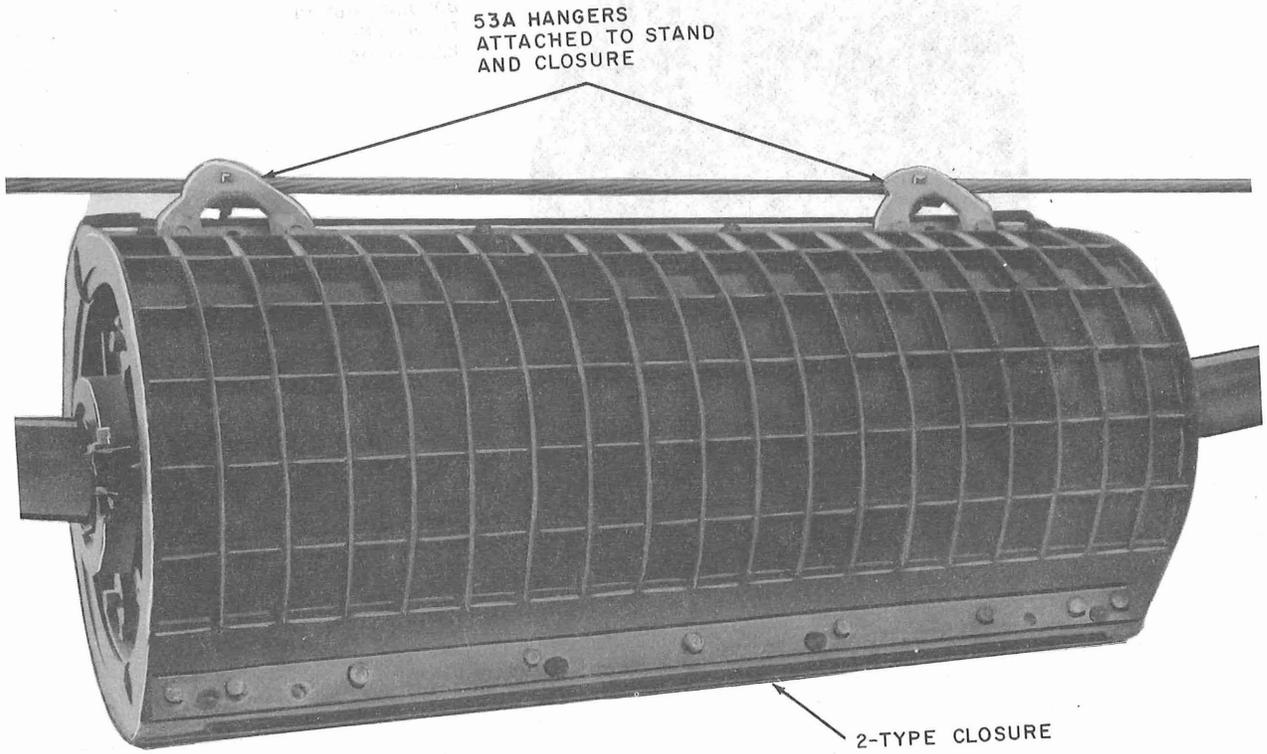
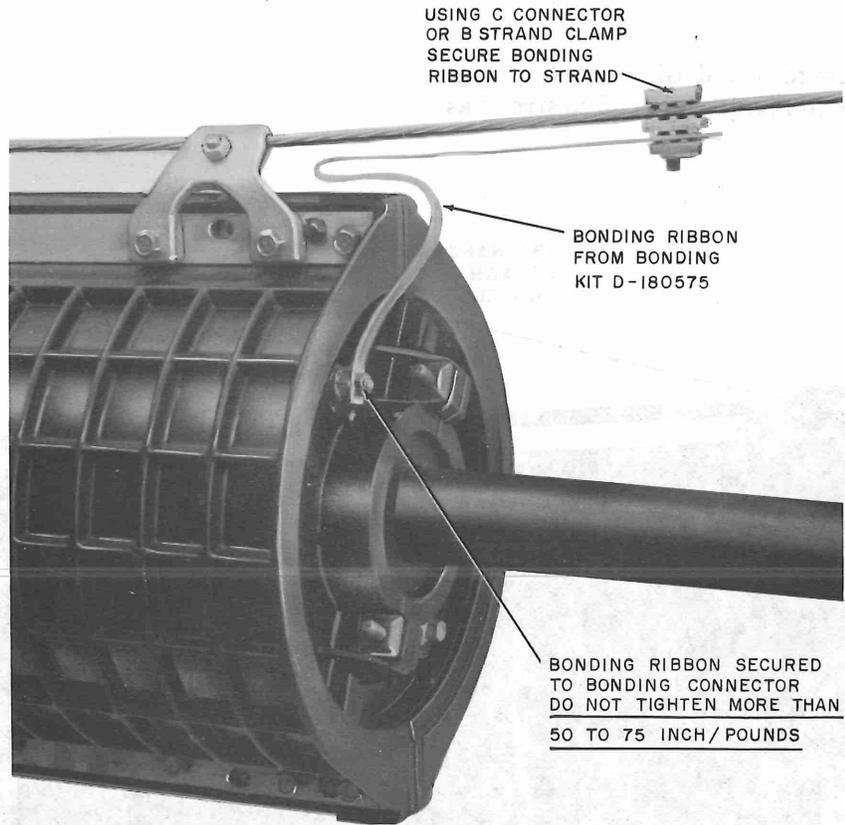

Fig. 46—Strand-Mounted Closure
Fig. 47—Bonding 2-Type Closure to Strand
11.02 Secure closure to strand using two 53A hangers as shown in Fig. 46 and bond to strand as shown in Fig. 47.